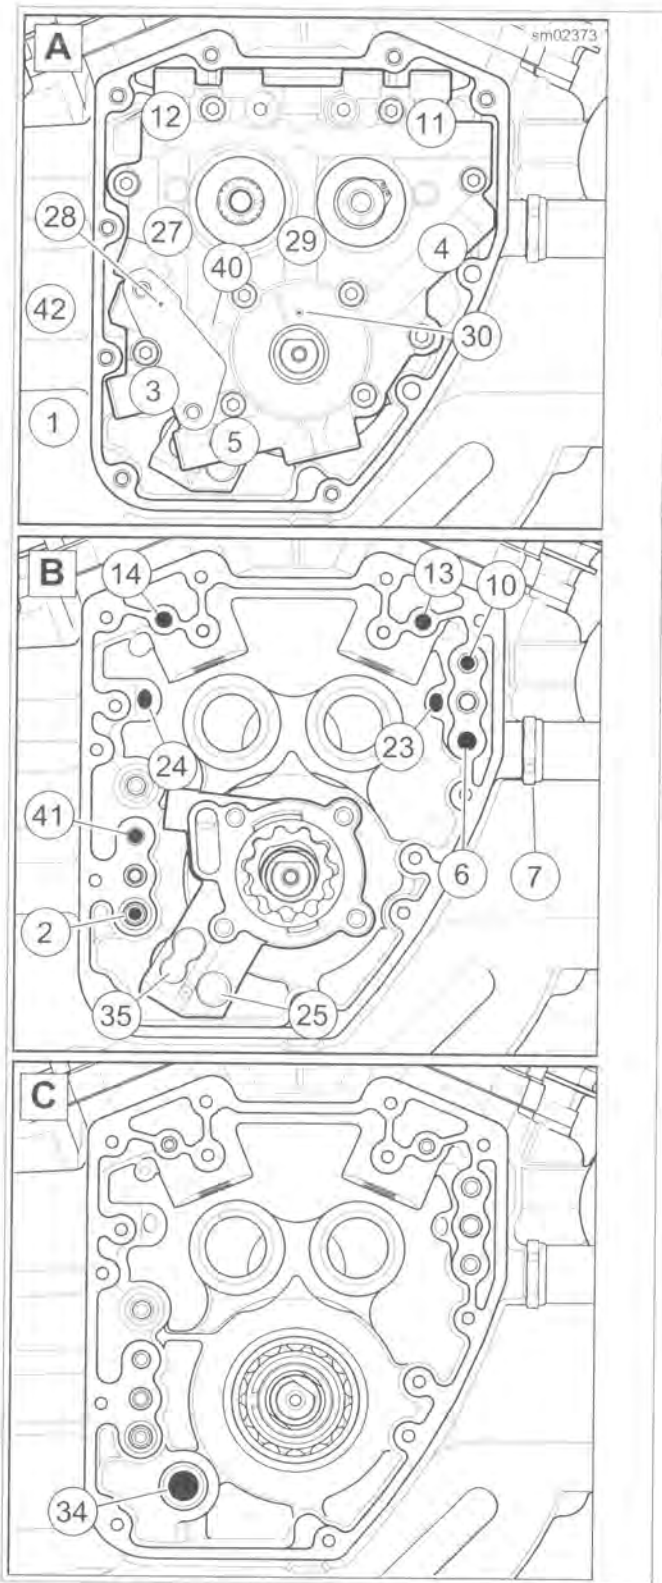

Figure 3-1. Engine Oil Flow: Cam Support Plate and Right Crankcase Half
- Cam support plate oil flow is shown in Figure 3-1.